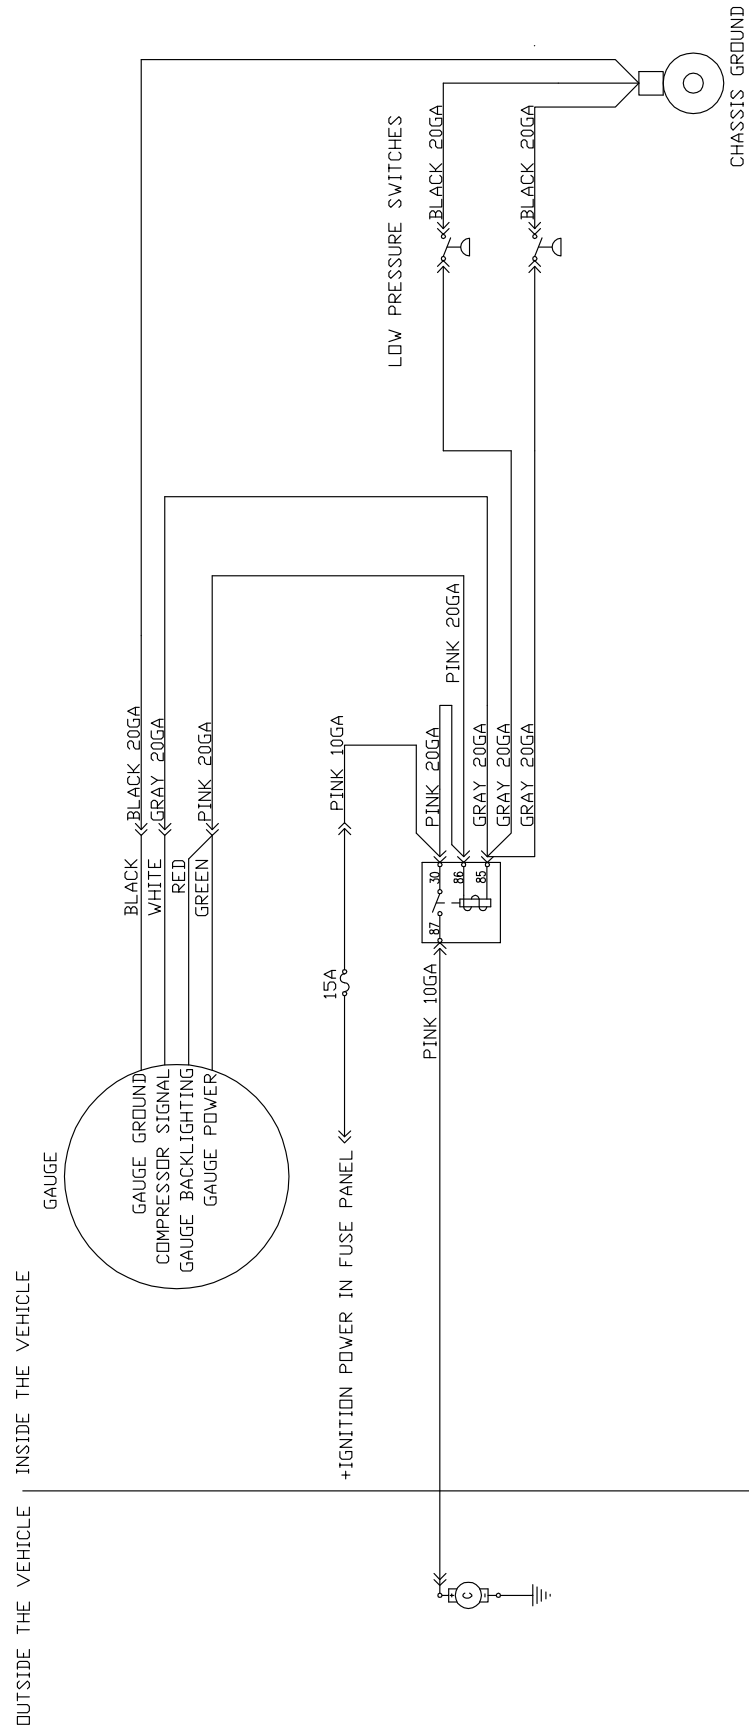

fig. 2
- a. Connect the color coded wires to the gauge harness as shown in the attached schematic (fig. 2).
- b. Connect the low pressure switch assemblies as shown in the attached schematic (fig. 2).